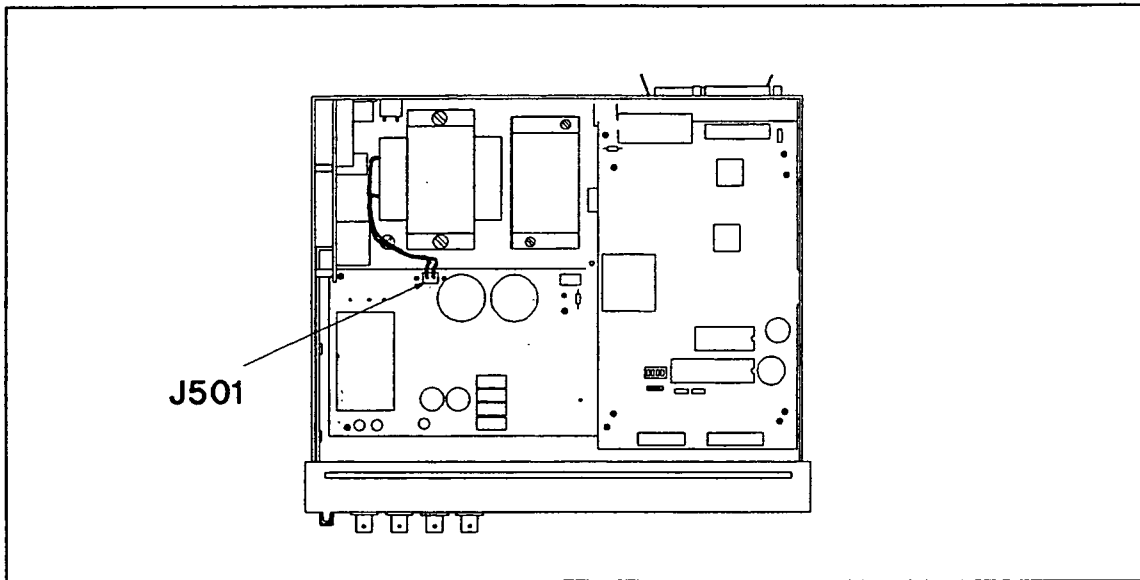

Figure 4-15. Transformer Secondary Voltage Check
2. Disconnect the transformer secondary connector from connector "J501" on the A1 Main Board Assembly. Refer to Figure 4-15 for the connector location.